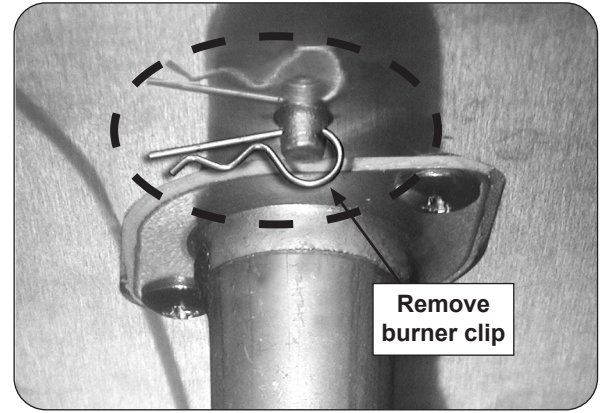

Fig. 31-1 Remove burner clip
3. Reach up under the burner support and remove the burner retaining clip (see Fig. 31-1), located at the rear of the burner pipe.
7. Replace the burner retaining clip (underneath burner). Reference Fig. 31-1.